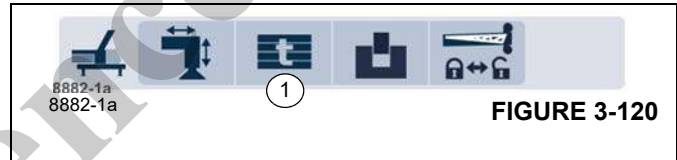

FIGURE 3-120
To open: Select symbol (1), (Figure 3-120) and confirm.